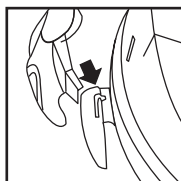

FIGURE 15
22. Press tabs of tool holder into the slots on mounting lugs on rear of tank cover. **FIGURE 15.**